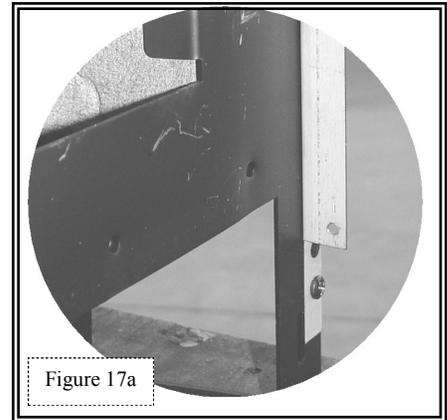
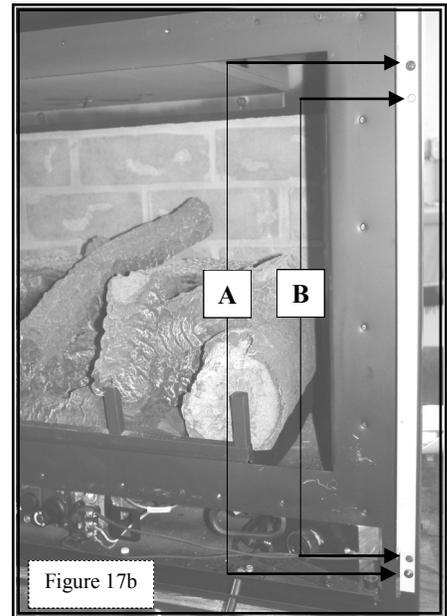

Figure 17a
Figure 17b
IMPORTANT- MOUNTING BRACKET ORIENTATION. Figure 17a.
1. Align holes in mounting brackets to corresponding holes in insert face, making sure brackets are positioned as shown in Figure 17a. Secure with screws provided (Figure 17b).
1. Remove screws (A) (2 ea. side) securing masonry panels. Figure 17b.
2. Align holes in mounting brackets to corresponding holes in insert face & masonry panels, making sure brackets are positioned as shown in Figure 17b. Secure with screws removed in step 1 and included in shroud components packet.